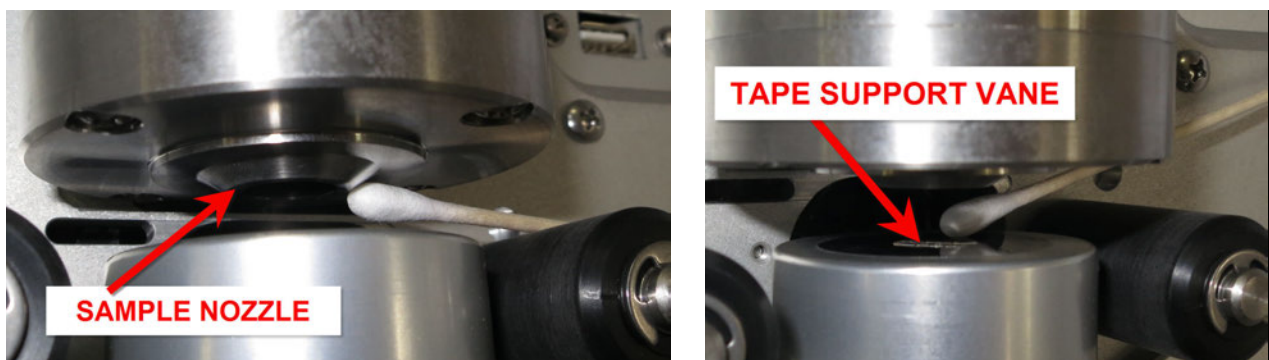

Figure 6-8 Cleaning the E-BAM PLUS Nozzle and Vane with a Cotton-Tipped Applicator
4. Thoroughly clean the nozzle sealing surface and the vane crosshairs with a cotton-tipped applicator and isopropyl alcohol (see Figure 6-8). Any hardened deposits may have to be carefully scraped off with the wooden end of the applicator.